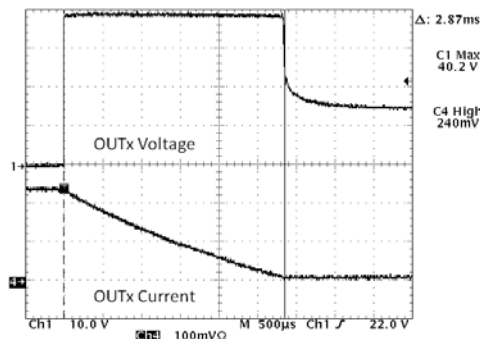

Figure 4. Repetitive Clamping Energy Test
2. Testing particulars, 2M pulses, $V_{bat} = 15$ V, 63 Ω , 390 mH, $T_A = 25^\circ\text{C}$. (See Figure 4)